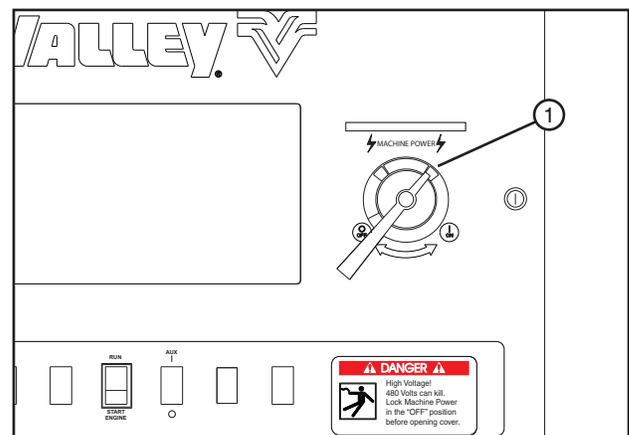

Figure 25-2 1. Main Power Disconnect
2. SHUT OFF the control panel main power disconnect. See figure 25-2.